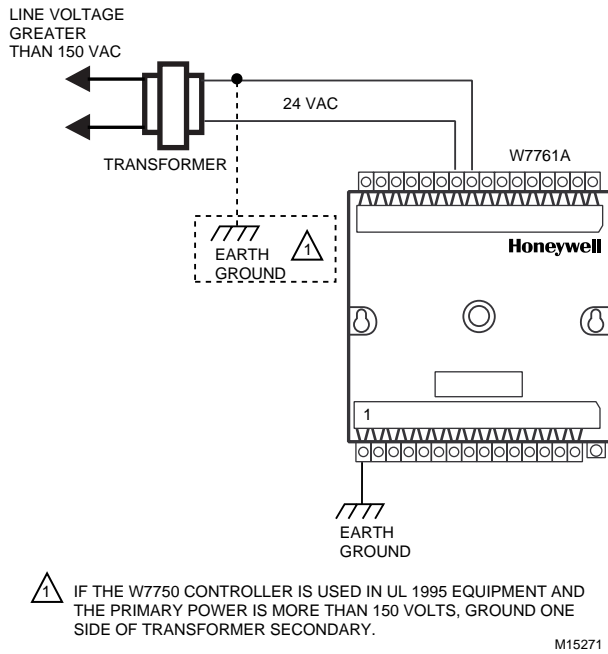

Fig. 6. Transformer power wiring details for one Excel 10 used in UL 1995 equipment (U.S. only).
*If the W7761 Device is used on **Heating and Cooling Equipment (UL 1995, U.S. only)** and the transformer primary power is more than 150 volts, connect the transformer secondary to earth ground, see Fig. 6. For these applications, only one Excel 10 device can be powered by each transformer.*